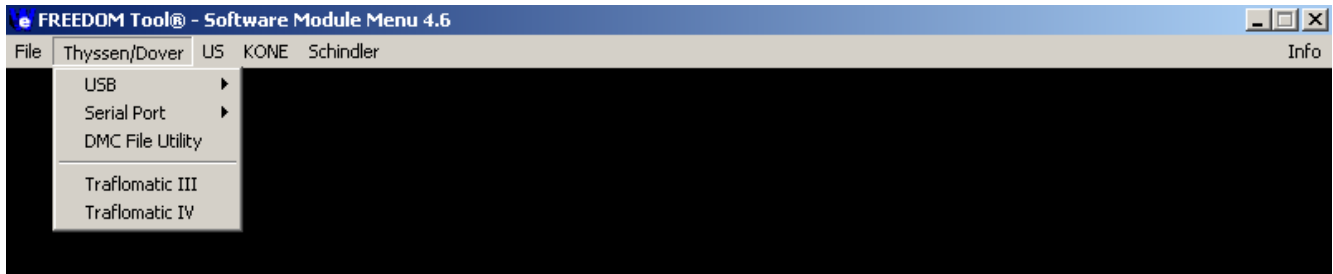

Figure 17
4. In order to run the 6300GE Software Module, the user would need to select **Thyssen/Dover** from the menu. Refer to Figure 17. After Thyssen/Dover is selected, the user is presented with choices of **USB, Serial Port, DMC File Utility, Traflomatic III, and Traflomatic IV.**